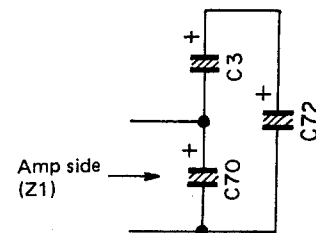

Fig. 2-2
- When this operation is viewed from the amp, the circuit can be described as shown in Fig. 2-2. Namely, the power impedance Z1 viewed from the amp is as follows.